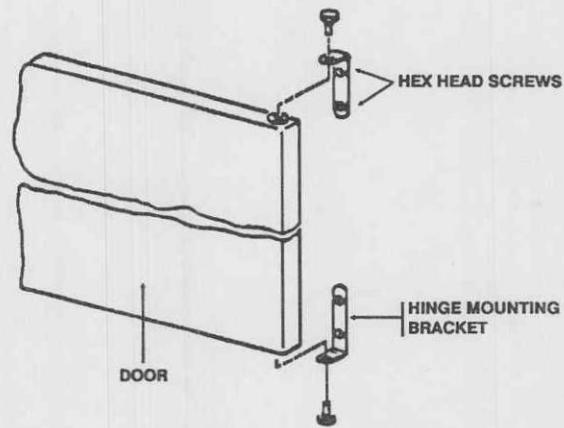
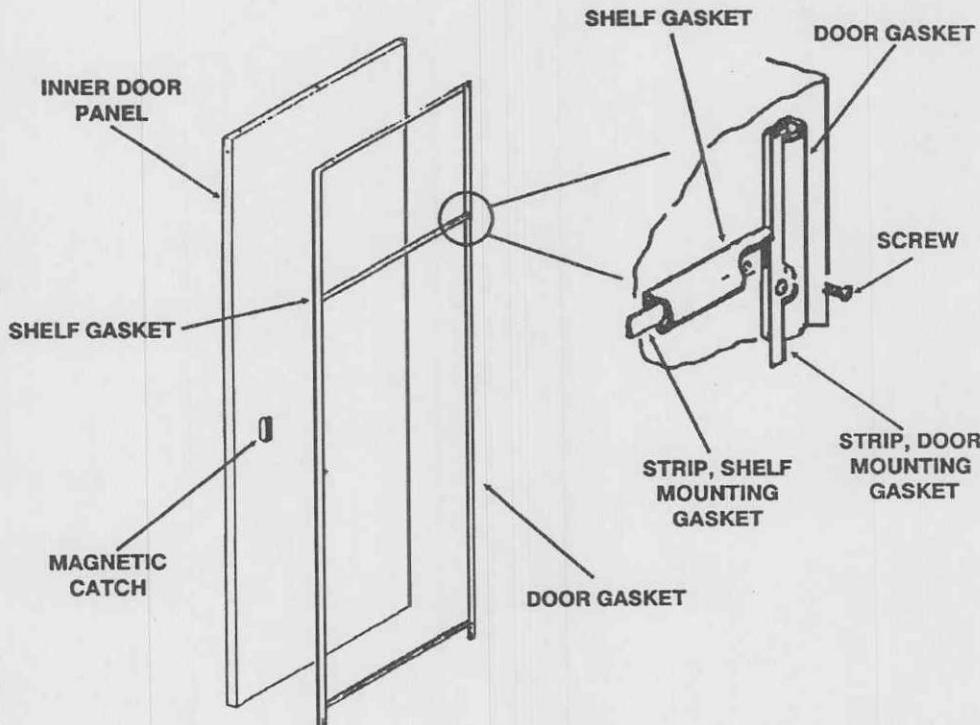

Figure 3-10. Door brackets.
Figure 3-11. Door and shelf gaskets.
a. Adjustment (fig 3-10).
- (1) Loosen the two hex head screws on both the upper and lower hinge mounting brackets.
- (2) Arrange blocking under the lower edge of the door to align it with the front of the cabinet.
- (3) Tighten the hex head screws.
- (4) Ensure that the door alignment is correct or repeat steps (1) through (3) again.
b. Gasket removal and replacement (fig 3-11).
- (1) Ensure that the warming cabinet is off by depressing the power "OFF" switch.
- (2) Open the door fully and stabilize it with blocking.
- (3) Lift the edge of the shelf gasket to expose the mounting strip and the Phillips-head screws.
- (4) Remove the screws and then remove the mounting strip and shelf gasket.
- (5) Lift the edge of the door gasket to expose the mounting strips and the Phillips-head screws. Sequentially remove the screws, mounting strips, and door gasket.
- (6) Clean the edge of the inner door panel with a mild cleaning agent.
- (7) Insert the mounting strips into the new gaskets.
- (8) Install new gaskets by sequentially replacing the screws around the gaskets.